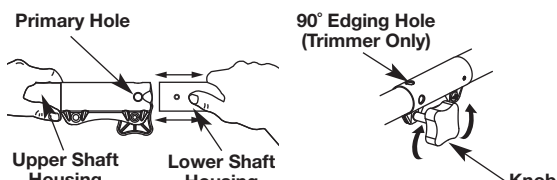

Fig. 4
3. While firmly holding the upper shaft housing, pull the lower shaft housing straight out of the Rapid-Link™ coupler (Fig. 4).
2. While firmly holding the add-on, push it straight into the Rapid-Link™ coupler (Fig. 4).